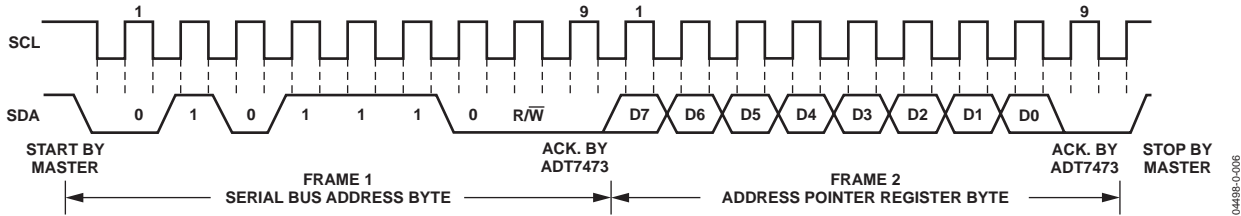

Figure 17. Writing to the Address Pointer Register Only
- If the ADT7473's address pointer register value is unknown or not the desired value, it must first be set to the correct value before data can be read from the desired data register. This is done by performing a write to the ADT7473 as before, but only the data byte containing the register address is sent, because no data is written to the register. This is shown in Figure 17.